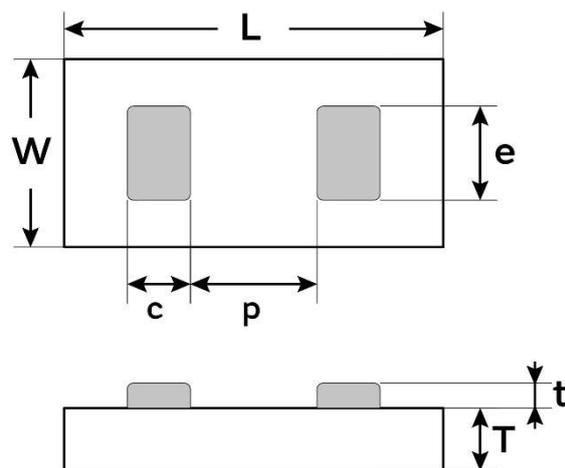

Figure 9 - Package outline drawing
(1) Other Film Frame Carrier are possible on request
(2) SAC = ENIG (0.1µm Au / 5µm Ni) + SAC305 type 6 or ENIG 0.1µm Au / 5µm Ni
(3) Missing capacitors can reach 0.5%
(4) Refer to Figure 9
(5) Dedicated for Pre-Production
(6) For all demands including Mass Production